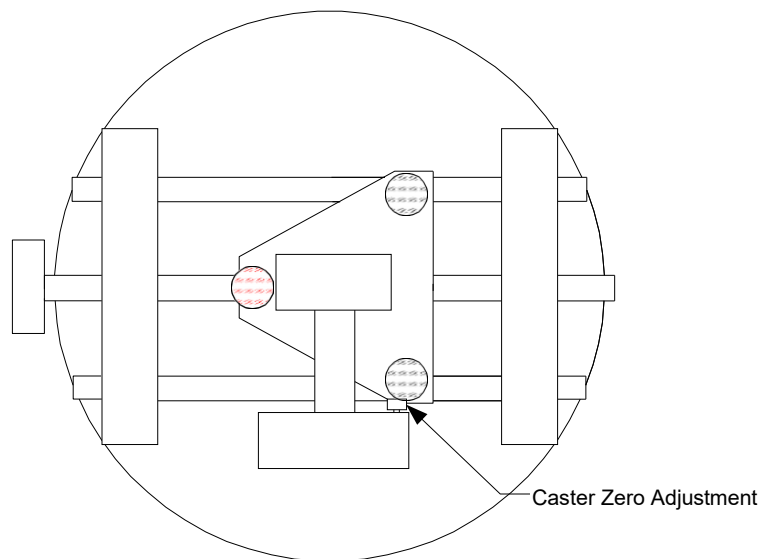

Figure 15
- 7) Rotate the wheel $\frac{1}{4}$ turn to the right, so the clamping knob is at a 9:00 o'clock position (Fig 15).